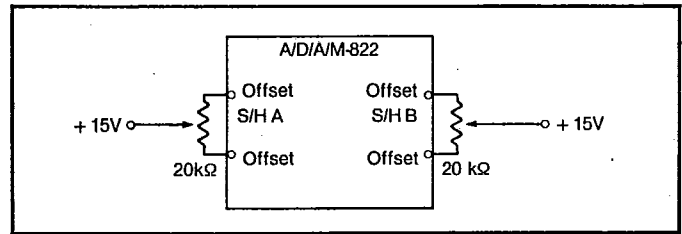

Figure 3. Offset Trimming Circuit.
- Offset and gain errors are externally adjustable — see Figures 3 and 4.
A separate, external 20 kΩ multi-turn potentiometer for each S/H amplifier is recommended, per Figure 3. The +15V source used to power the A/D/A/M-822 may be used for the offset circuit as well.